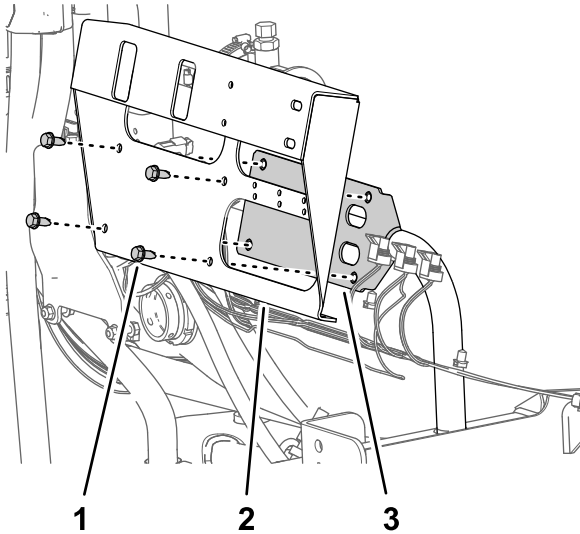

Figure 74
- Remove the 4 flange-head screws (5/16 x 3/4 inch) that secure the section-valve bracket from the valve mount, and remove the valve bracket from the machine (Figure 74).